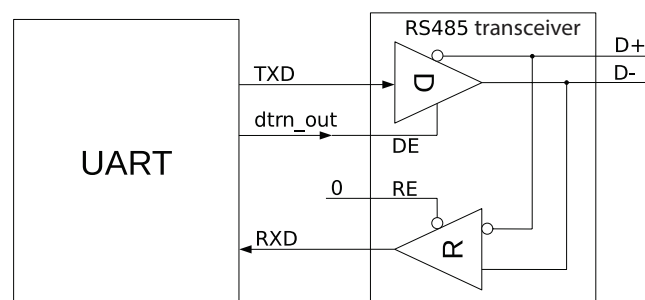

Figure 19.4-6. Driver Control Diagram in RS485 Mode
As shown in Figure 19.4-6, in a two-wire multidrop network, an external RS485 transceiver is needed for differential to single-ended conversion. An RS485 transceiver contains a driver (D) and a receiver (R). When a UART controller is not in transmitter mode, the connection to the differential line can be broken by disabling the driver (D). When DE is 1, the driver is enabled; when DE is 0, the driver is disabled.
DE can be controlled by either software or hardware. To reduce the cost of software, in our design, DE is controlled by hardware (can still be controlled by software). As shown in Figure 19.4-6, DE is connected to `dtrn_out` of UART (please refer to Section 19.4.9.1 for more details).
In a two-wire multidrop network, UART controllers support bus snooping if RE of the external RS485 transceiver is 0. By default, a UART controller is not allowed to transmit and receive data simultaneously. If UART\\_RS485TX\\_RX\\_EN is set and the external RS485 transceiver is configured as in Figure 19.4-6, a UART controller may receive data in transmitter mode and snoop the bus. If UART\\_RS485RXBY\\_TX\\_EN is set, a UART controller may transmit data in receiver mode.